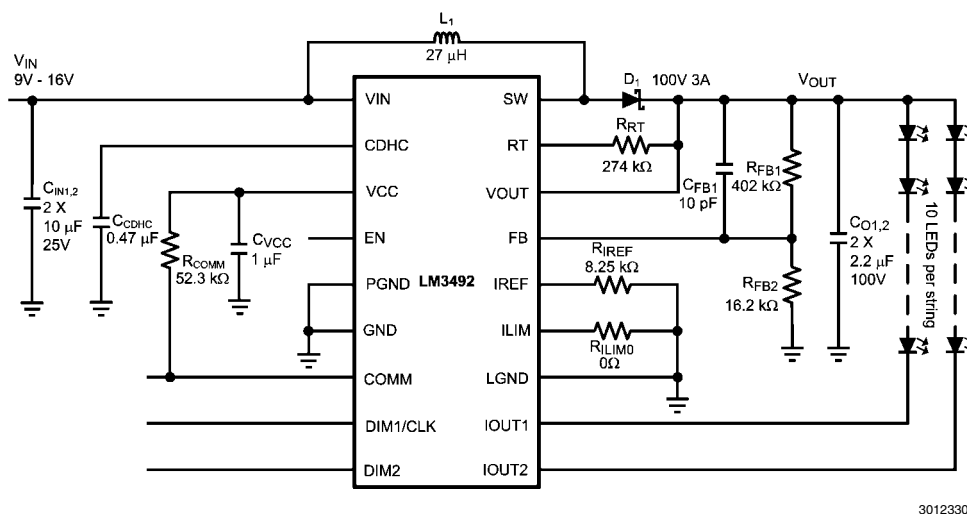
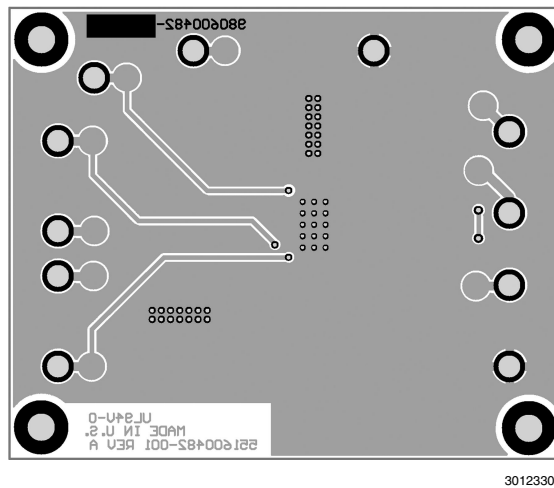

FIGURE 1. LM3492 Evaluation Board Schematic
FIGURE 4. LM3492 Evaluation Board Bottom View
**$R_{RT}$  and  $R_{IREF}$ :** The resistors  $R_{RT}$  and  $R_{IREF}$  set the switching frequency  $f_{SW}$  of the boost converter and the LED current  $I_{LED}$  respectively. From the LM3492 datasheet,  $R_{RT}$  is selected to be 274  $\text{k}\Omega$  if  $f_{SW}$  is 500 kHz (Figure 1 of the datasheet), and  $R_{IREF}$  is selected to be 8.25  $\text{k}\Omega$  if  $I_{LED}$  is 150 mA (Figure 4 of the datasheet).